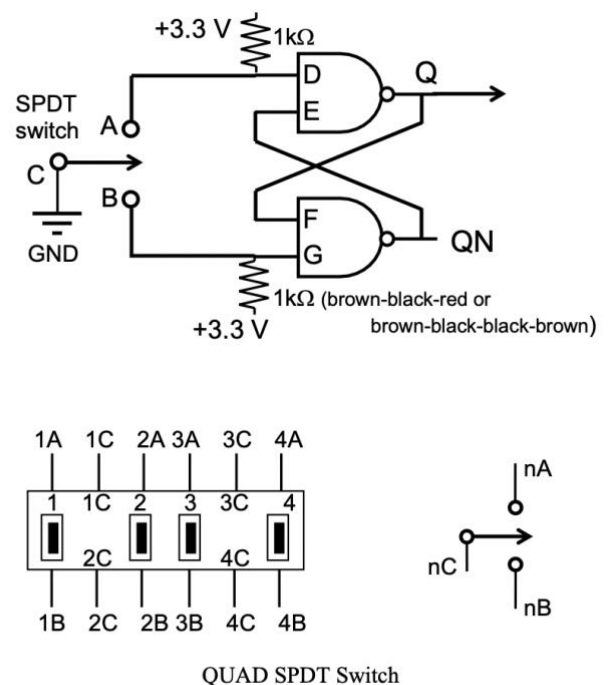

Figure 17. A Debouncing Circuit for an SPDT Switch
- c. Explain how and why the debouncer circuit given in General Guide Figure 17 (GG.32) works. Specifically, what makes it behave like a switch and how the ill effect of mechanical contact bounces is eliminated?
How this works: In this circuit shown (Figure 17), we use a Single-Pole Double-Throw switch, an SR Flip-Flop and two NAND gates to simulate a de-bounced switch. The inputs D, G (connected via A) are connected to pull up resistors, and the 2 NAND gates form an SR latch. We will assume the top NAND gate is N1 and the bottom NAND gate is N2. If we begin in the state where C touches B, then G is connected to ground (0V) and the N2 gives an output of 1, making QN hold the value of 1 (and Q hold the value of 0), but the value itself is independent of Q. Now, whilst toggling the switch to position A, there is a chance that the switch may get suspended in the middle, which in a normal DIP switch could cause fluctuations due to contact bounce. In our debounced switch, however, this suspension makes D, G go to 1 (as they are connected to pull up resistors). Thus, the value of QN stays 1 and Q stays 0. When the switch finally touches A, it makes D go to 0, and then makes Q have an output of 1, regardless of what the value of QN is.